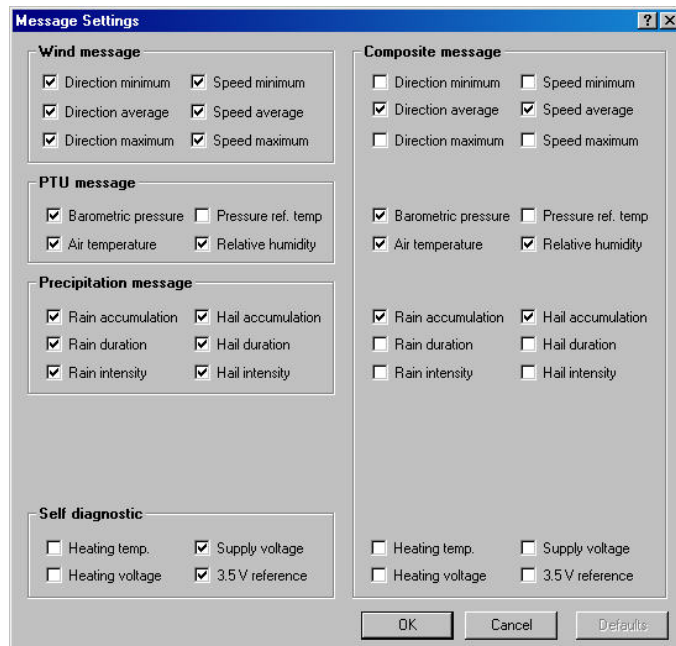

FIGURE A-4. Message Settings screen
10. Go to the Message Settings Screen and verify that Message Settings are as desired. The default settings are shown in Figure A-4.